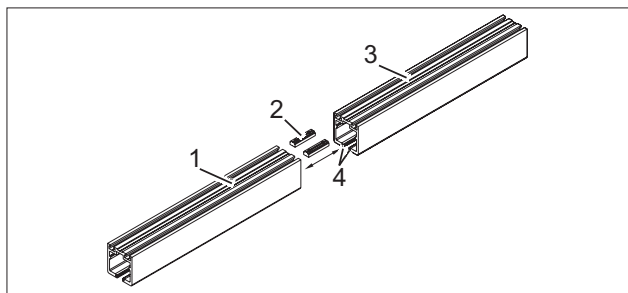

Fig. 4 Interlocking the track rails
2. Insert the clamping pieces (Fig. 4/2) into the upper track rail channels (Fig. 4/1).
3. Secure the clamping pieces (Fig. 4/2) using the set screws on the top side.
4. Insert the tapered dowel pins (4x) 20 mm into the lower channel (Fig. 4/4) halfway.
6. Insert the next track rail piece's (Fig. 4/3) joint into the already installed track rail piece. For this, insert the clamping pieces into the upper channels.